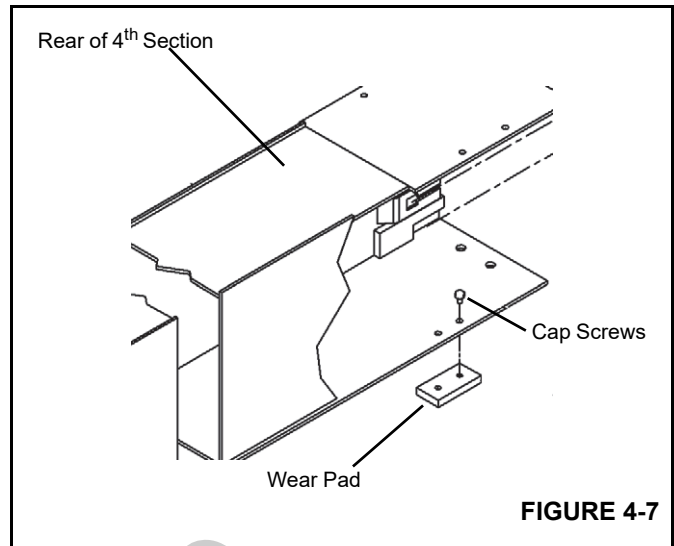

FIGURE 4-7
2. Attach the rear wear pads on bottom of the 4th section as per removal tags. Use Loctite 243 blue on all wear pad mounting capscrews (Figure 4-7).